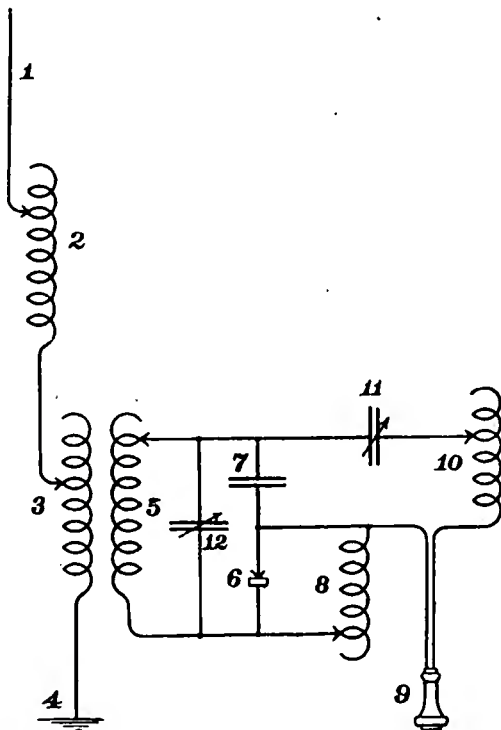

Figure 1—Weagant circuit for group frequency tuning
**E**XPERIMENTS have shown that when the local circuit of a radio receiving system is fitted with a group frequency or audio frequency tuning circuit a diminution of the strength of signals results. A system has recently been disclosed by Roy A. Weagant, chief engineer of the American Marconi Company, wherein group frequency tuning is possible without the usual loss of signals. The connections are shown in figure 1. The primary and secondary